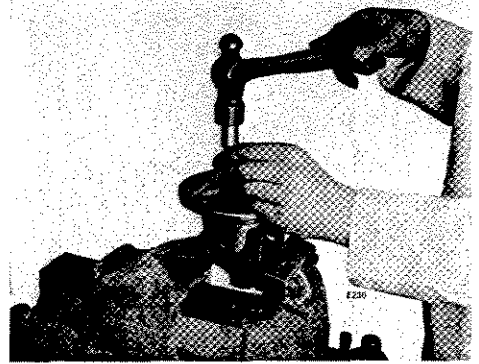

Fig. 71.
Drive out the cross shaft locking pin (6), Fig. 70, and drift out the cross shaft (3), Fig. 71. Rotate both sun wheels (2) through 90°, thus bringing the planet wheels (4) in line with the apertures in the differential cage.